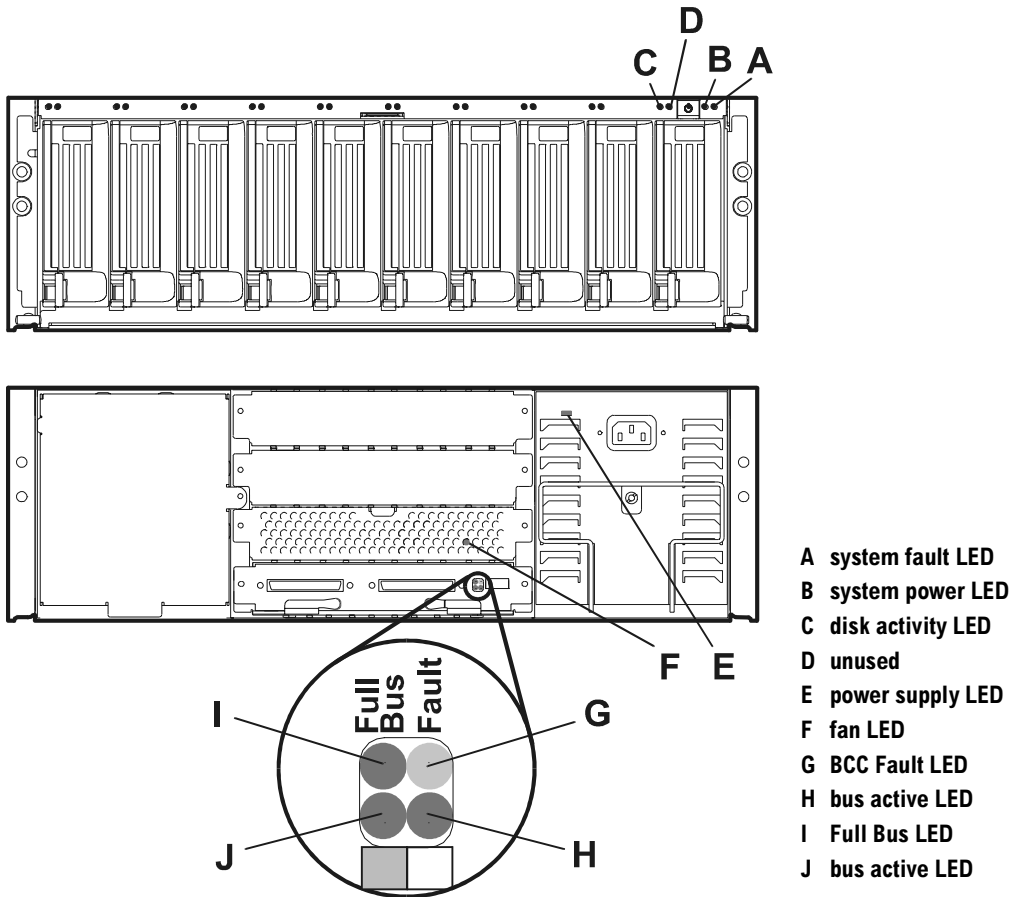

Figure 46 LED Status Indicators
LEDs indicate the status of the disk system itself and each of its components (see Figure 46). Green and amber system LEDs are visible on the front of the disk system with the door closed. They show that (A) a fault has occurred and (B) power is on. Disk activity LEDs (C) are on the front of the disk system above each disk module. Other LEDs are on each component in the back of the disk system.